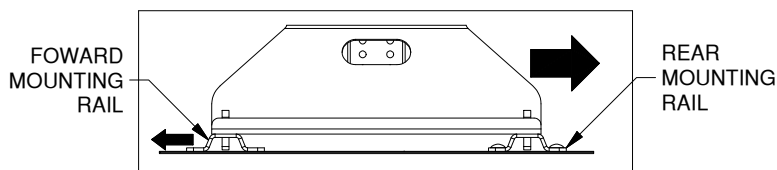

Figure C4: Side view of RV base and mounting rails.
- 2. IMPORTANT:** Before drilling forward mounting holes pull the RV base towards the rear of the truck and push the forward rail towards the cab of the truck to correctly space the mounting rails, see figure C4.